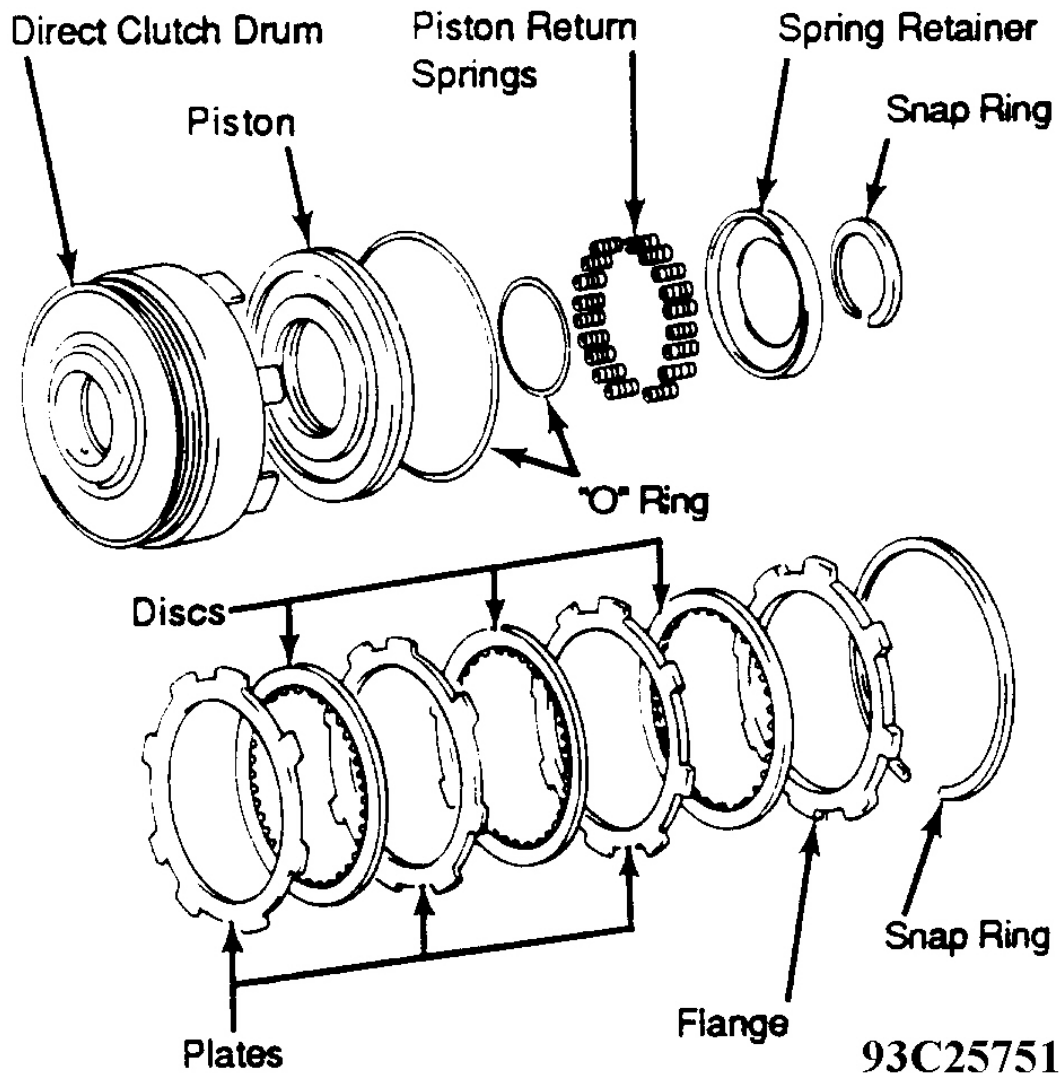

Fig. 20: Exploded View Of Direct Clutch (A-540H Shown; A-241H Is Similar)
- Remove spring retainer and 18 springs. Slide direct clutch on oil pump. Remove piston by applying low pressure compressed air. If piston does not completely come out, remove with needle-nose pliers. Remove direct clutch from oil pump. Remove "O" ring from clutch piston. See **Fig. 20**.